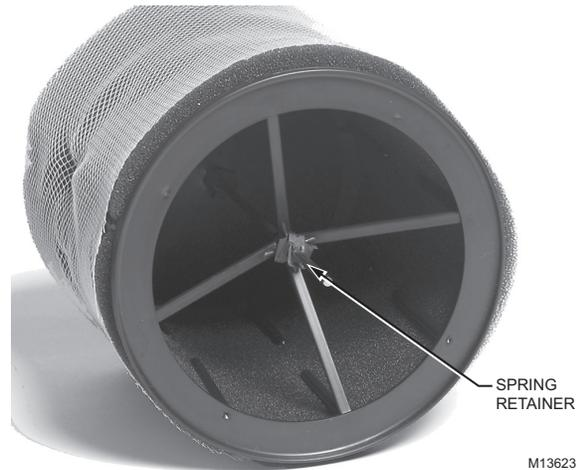

Fig. 19. Installing Open Drum End.
4. Slide Open Drum End over Drum Shaft with round posts inside Humidifier Pad. See Fig. 19.